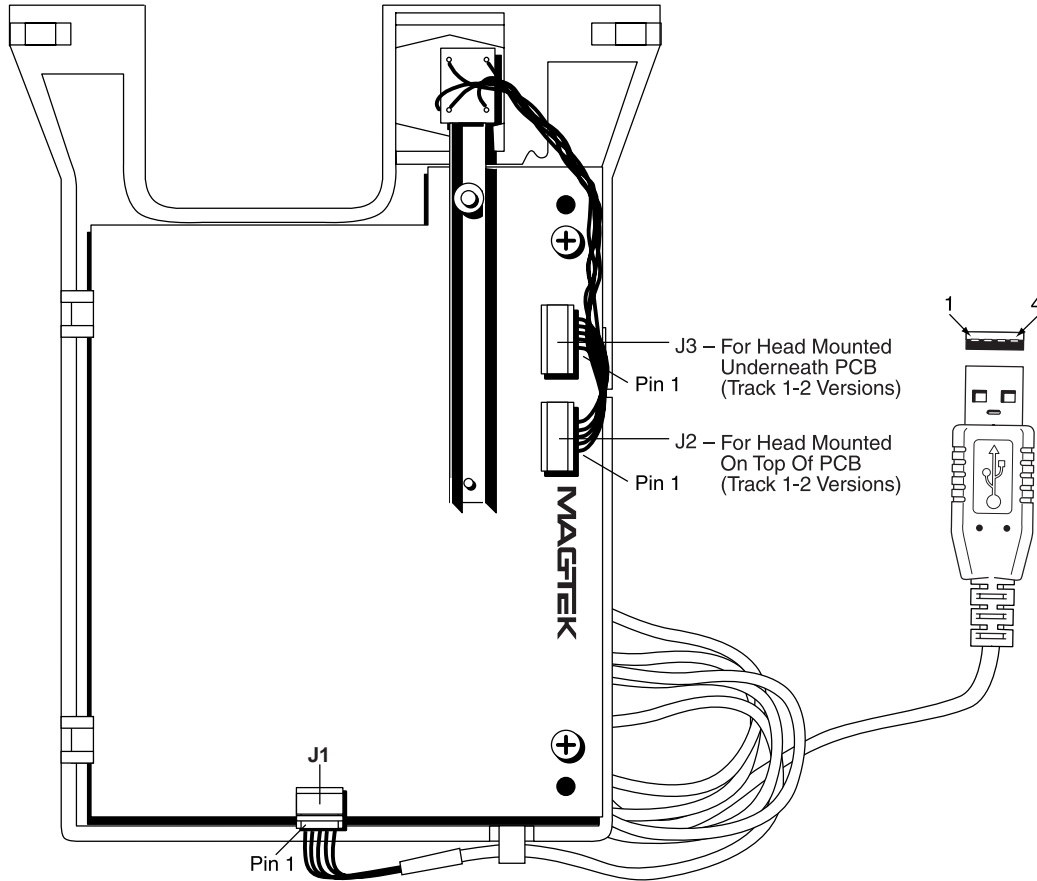

Figure 2-1. Cabling
Connect the optional USB cable to a USB port on the host. The reader and pin numbers for the cable connectors are shown in Figure 2-1. The optional MagTek or user-supplied cable can be securely attached with a cable tie as shown.
Figure 2-1 shows the board layout and indicates the cable connections.
*As shown in Figure 2-1, there is also a cable with a tie wrap, which may add to the length of the unit. If used as shown, approximately 0.25 inch is added to the length of the unit.*